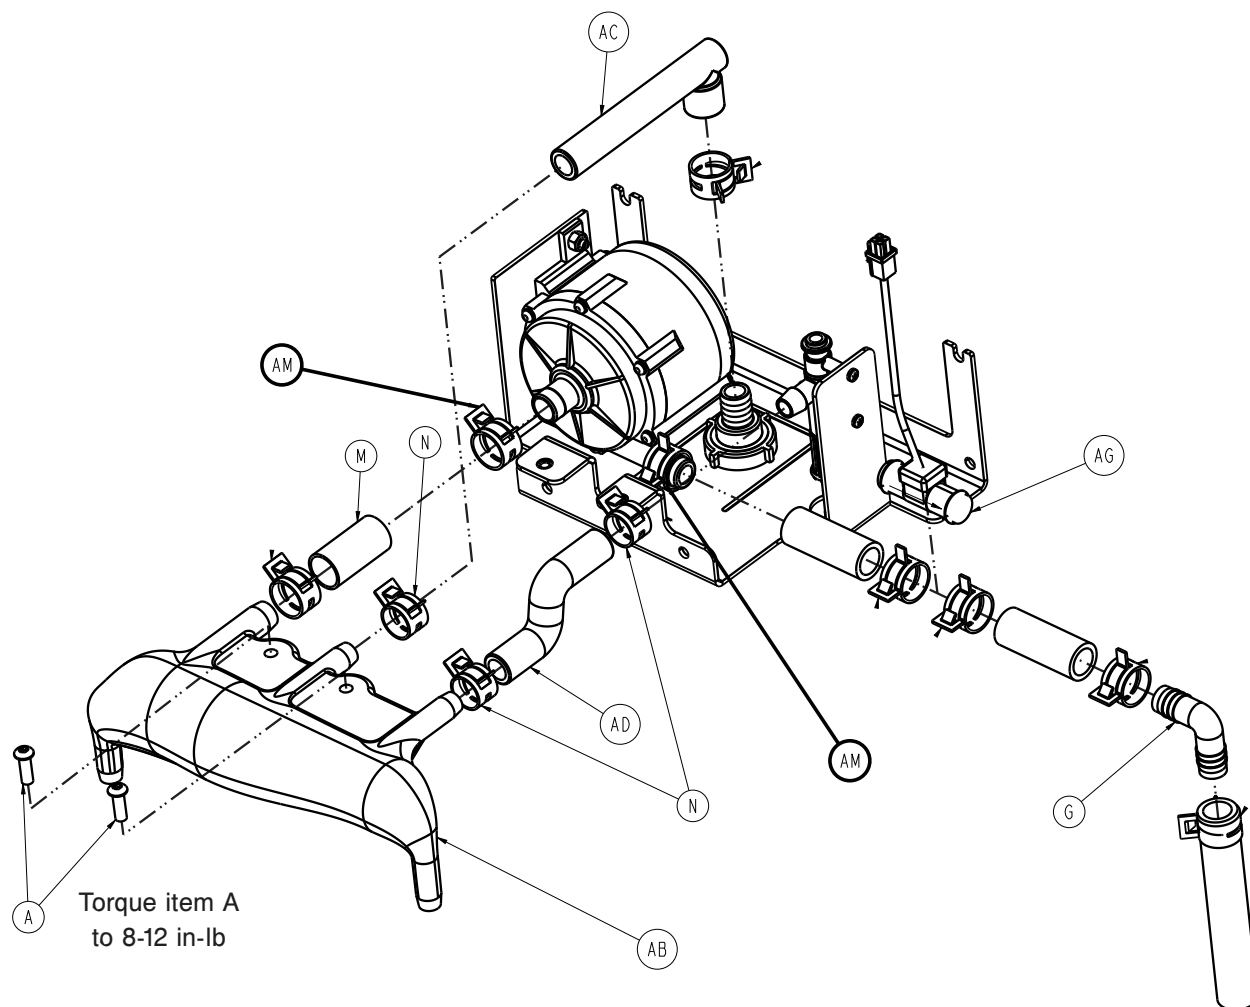

Figure 21: Two hose clamps
10. Using needle nose pliers, squeeze the two hose clamps (AM) that secure the tubing to the fluid pump (Figure 21 on page 32).